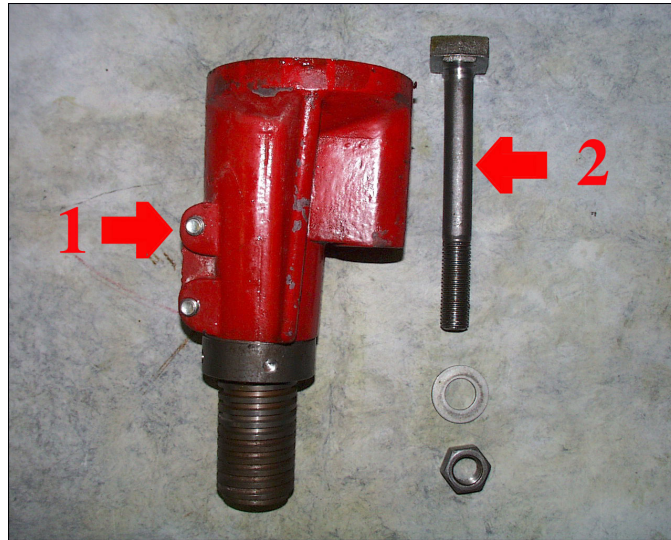

Figure 2
- 102 Select four of the same size mounting feet (Arrow 1 in Figure 2) and T-Bolts (Arrow 2 in Figure 2). Mount the feet to the steel palette using the T-Bolts. Ensure the connections are tight and secure.